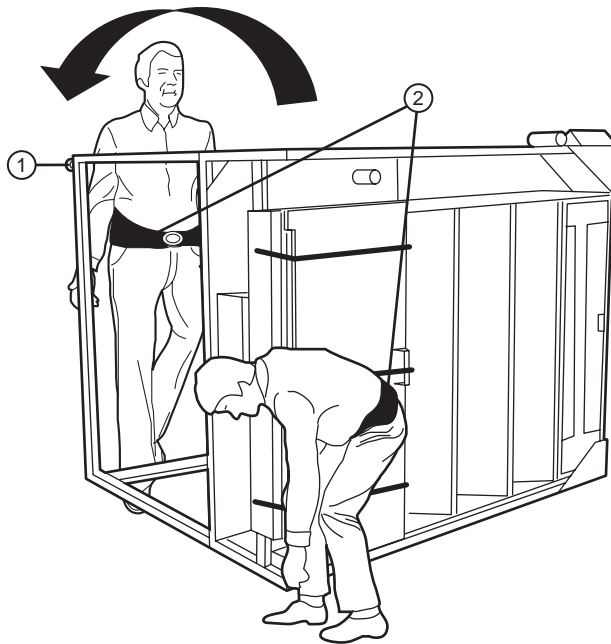
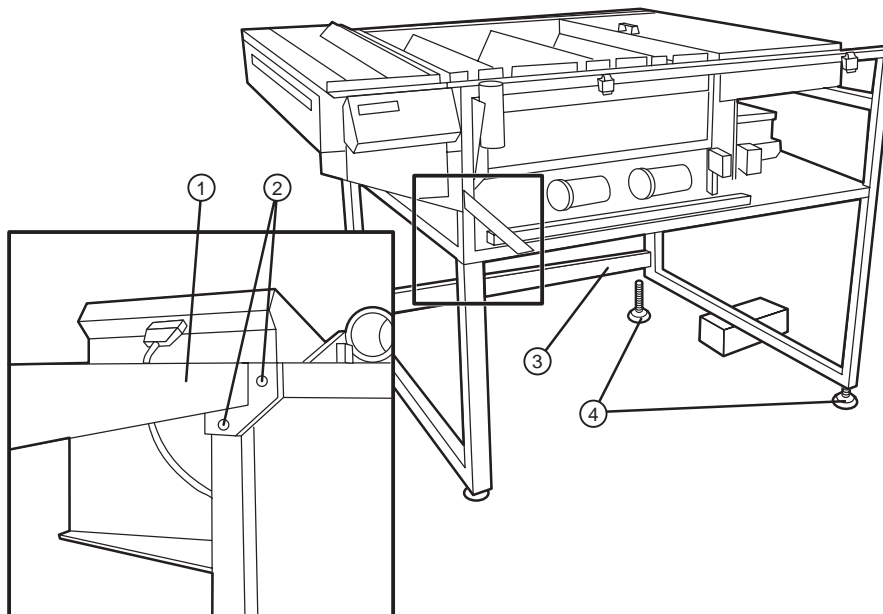

Figure 1-10 Tipping the OLP engine.
Figure 1-11 Assembling the legs, brace and leveler feet.
WARNING: Always use proper back support belts when lifting heavy weights (see Figure 1-10).
1. Using a hex driver, attach the two (2) legs to the bottom of the OLP engine frame. Refer to Figure 1-10 and Figure 1-11.
2. Attach the stabilizer bar to the bottom set of legs on the left side. Refer to Figure 1-10 and Figure 1-11.
3. Attach the leveler feet to the top two (2) legs only. Refer to Figure 1-10 and Figure 1-11.
4. Tip the OLP engine right side up. Rest the legs on a block and install the remaining two (2) leveler feet. Refer to Figure 1-10 and Figure 1-11.